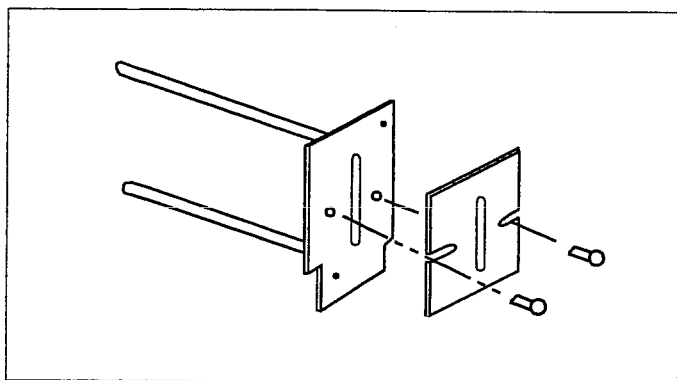

Figure 8: Light Aperture Adjustment
- ④ Turn on the Light Source and allow it to warm up for five minutes. Check the alignment of the Light Source and the Aperture by looking at the light shining on the back of the Lens/Grating assembly. If necessary, adjust the back plate of the Light Aperture Assembly by loosening the two retaining screws (Figure 8) and sliding the aperture plate left or right until the light shines directly on the center of the Lens/Grating Assembly.